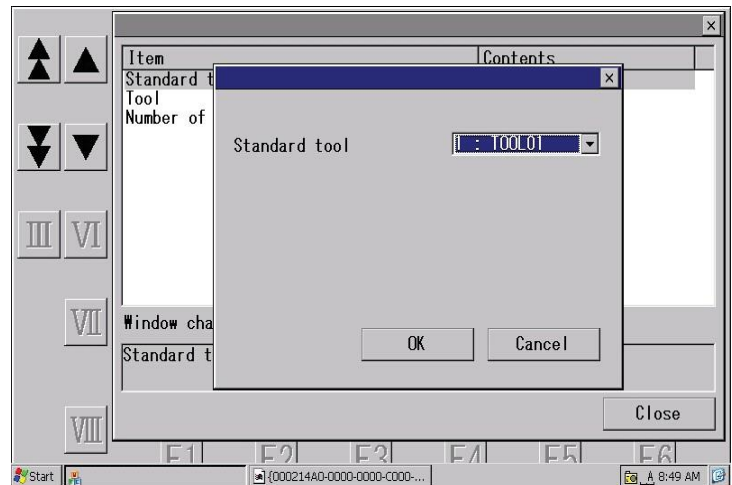

Figure 5
*Set > Robot > Tool > Standard Tool (Figure. 5)*